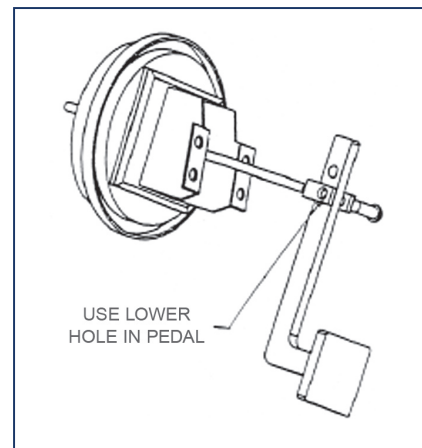

FIGURE 9
3. Mount the booster to the fire-wall with the existing studs or bolts. Place the clevis assembly into the lower hole in the pedal and install the pin and clip (See Figure 9).